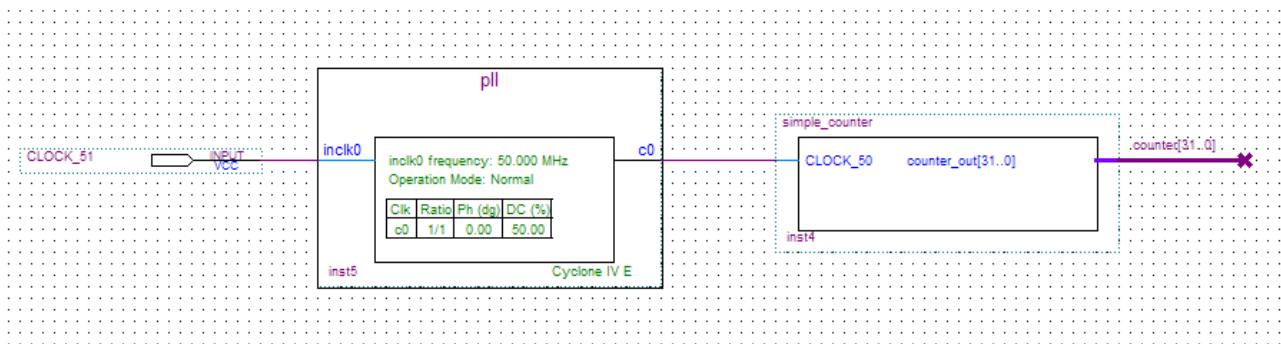

Figure 6-32 BDF
- k. Click OK. **Figure 6-32** shows the BDF.